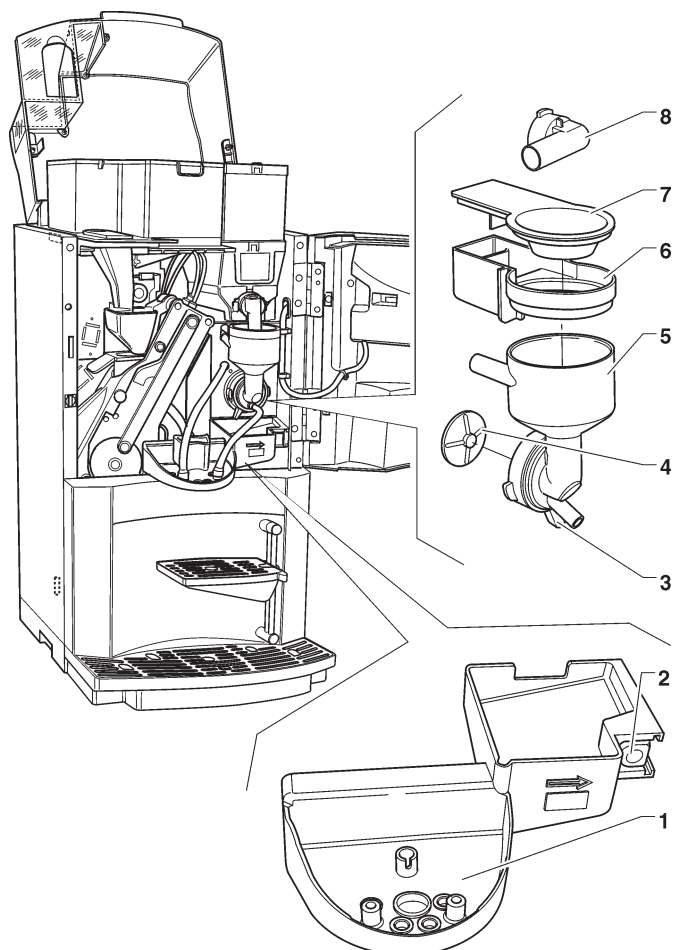

Fig. 23
- remove the powder and the water funnels, the feeders, the powder deposit drawers and the mixer impellers from the mixers (see Fig. 23);